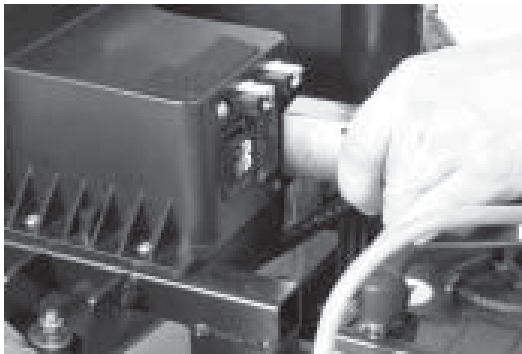

FIGURE 22. UNPLUGGING THE FRONT-TO-REAR CONNECTOR
7. Unplug the front-to-rear connector that attaches the front control console harness to the electronics module harness. See figure 22.